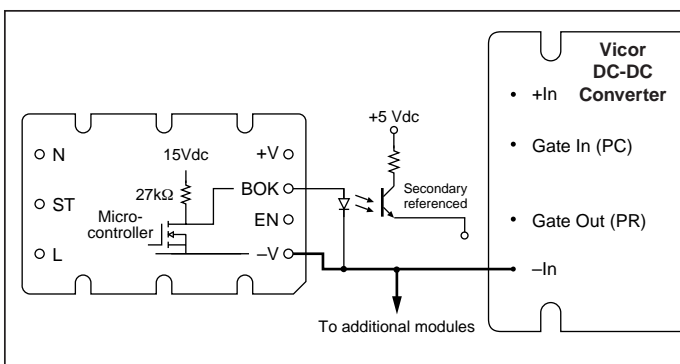

Figure 10—Bus OK (B OK) isolated power status indicator
**Bus-OK (B OK) Pin.** (See Fig. 10). The Bus-OK pin is intended to provide early-warning power fail information and is also referenced to the negative output pin.